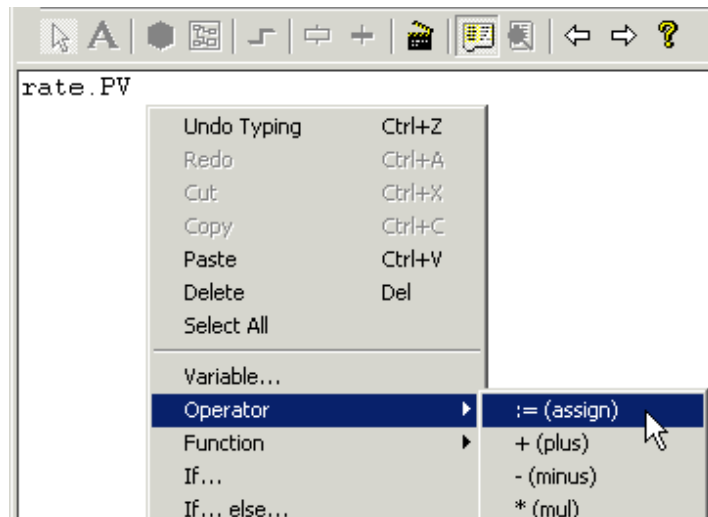

Figure 8-4 Writing the ‘wait’ action with the help of the ST prompter
- 4 Click the **Make Action** tool again and create a text action called ‘wait’. Right-click in the blank action window to pop up a context menu, then click **Variable....** A pick-list of LIN block fields appears, from the associated the LIN database ‘seq.dbf’ (see Figure 8-4).